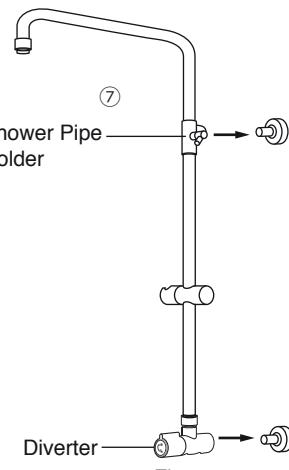

Figure 4
- ⑦ Install the Diverter to the Lower Bracket and Shower Pipe Holder to the Upper Bracket as shown in Figure 4.
- ⑧ Tighten the Diverter and Shower Pipe Holder with the screw using the allen key provided.